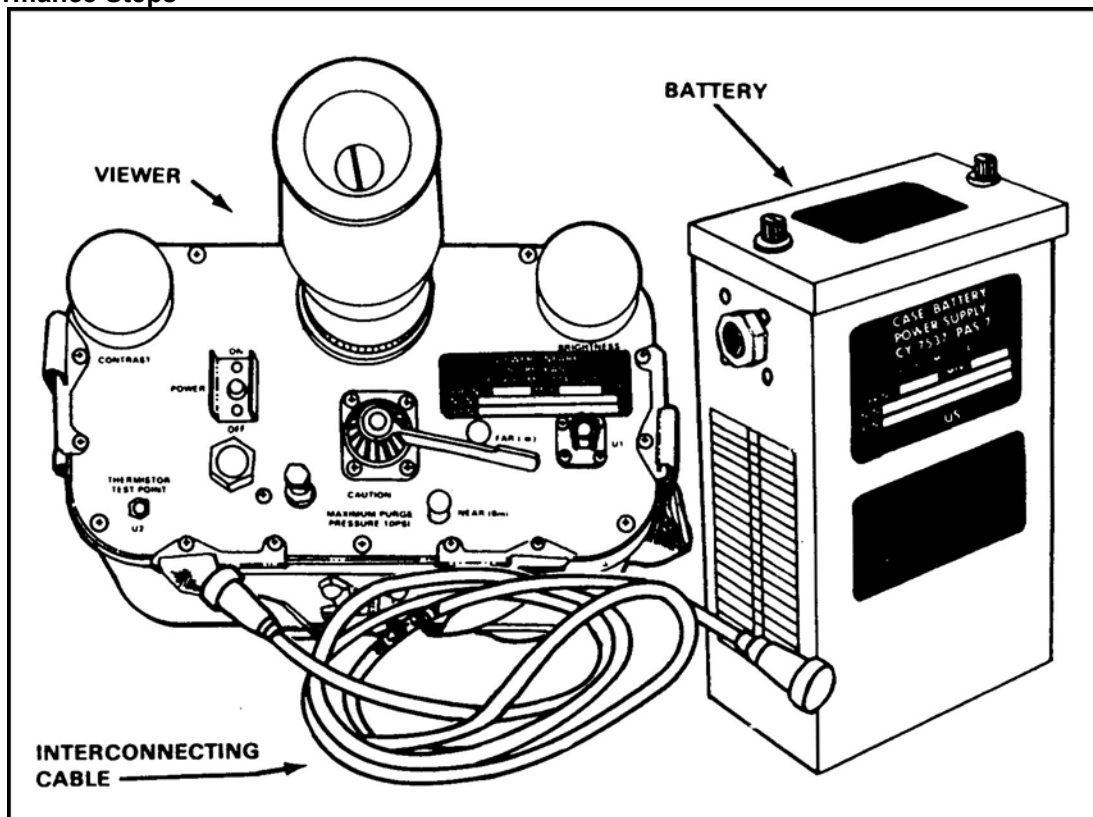

Figure 1. AN/PAS-7 and battery.
- (1) Connect the female end of the interconnecting cable to the viewer.
- (2) Connect the male end of the interconnecting cable to the rechargeable battery (Figure 1).